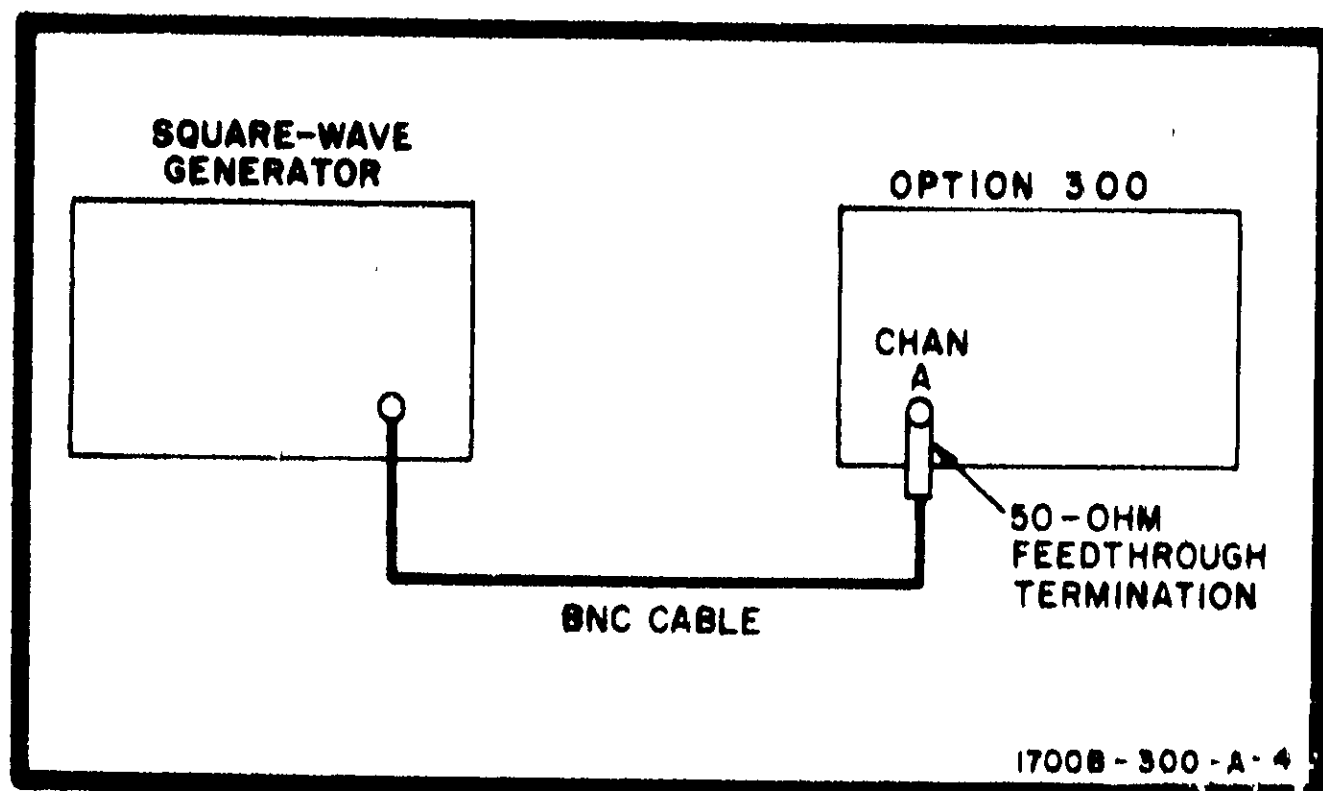

Figure 5-2. Risetime Test Setup
- a. Connect instruments as shown in figure 5-2.